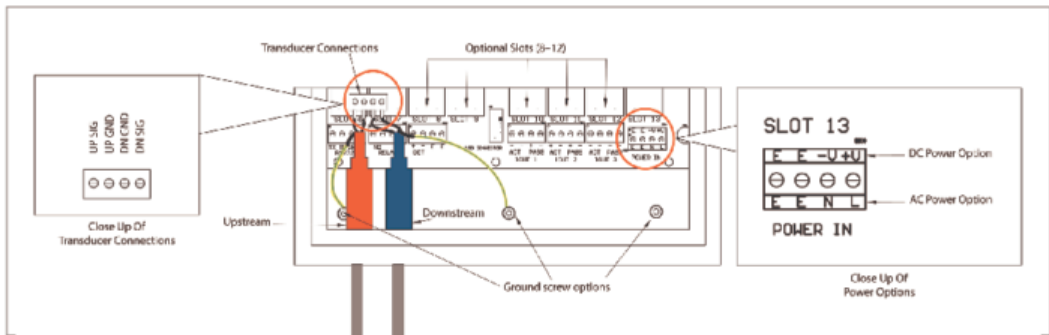

Figure 1. 207i AC and DC Power Options: Minimum Required Wiring
- Option P2: DC powered, 9-36 VDC, 0.5 Amps. (See Figure 1 "DC Power Option").
- Option P3: AC powered, 100-240 VAC, 50-60 Hz, 0.5 Amps. (See Figure 1 "AC Power Option").
- Open the hinged top cover of the electronics (see Figure 1). The power input terminal block is labeled "POWER IN." On the AC power unit, it is labeled E E N L, and on the DC powered unit it's labeled E E -V +V (See Figure 1).
Note: The standard 207i is equipped with 3 onboard 4-20mA current outputs, 1 relay, 1 OCT, RS-232, and USB port. Optional plug in slots (see Figure 1) can add PT 100 RTD inputs, 4-20mA inputs, and Modbus-RTU slave. For this Quick Install example, we will only be using the bare minimum to measure water flow.
- AC power connections: L to AC line (hot), N to neutral, E to safety earth ground; 100-240 VAC, 50-60 Hz, 0.5 Amps (See Figure 1)
- DC power connections: V+ to DC plus, V- to DC power return, the E connection are optional Earth ground. 9-36 VDC 0.5 Amps (See Figure 1).
2. Connect the upstream (red) transducer white wire to the UP SIG terminal on the ultrasonic board, and the black wire to the UP GND terminal. The green/yellow wire is the earth ground wire. It attaches to the enclosure ground screw as shown (See Figure 1).
3. Connect the downstream (blue) transducer white wire to the DN SIG terminal on the ultrasonic board and the black wire to the DN GND terminal. The green/yellow wire is the earth ground wire. It attaches to the enclosure ground screw as shown (See Figure 1).